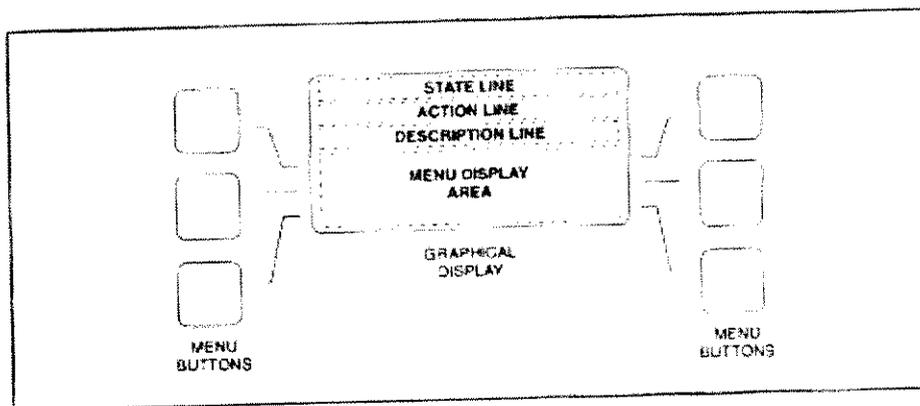

FIGURE 3-3 GRAPHICAL DISPLAY AND MENU SELECTION BUTTONS
- Fault codes/messages will be displayed in the **Description Line** of the graphical display. (Refer to Figure 3-3 above)